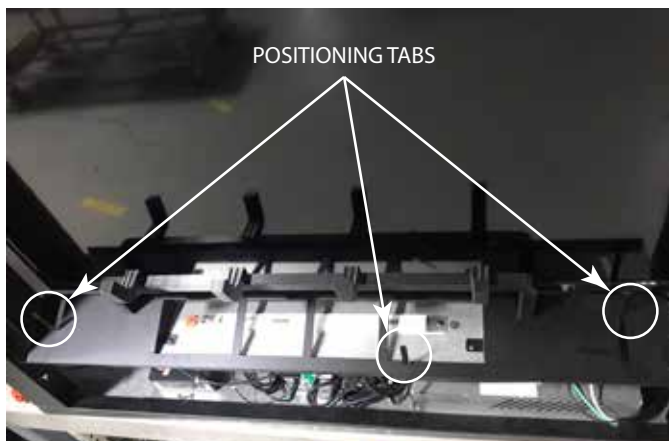
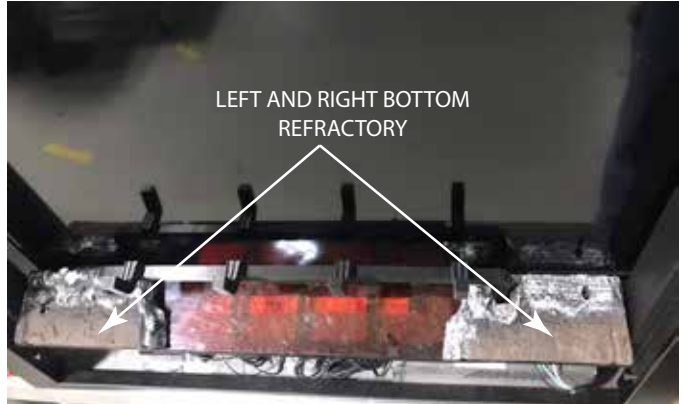

Figure 4.15 Fold Up Tabs
Figure 4.17 Install Left and Right Base Refractory Pieces
4. Place the left and right base refractory pieces on the base pan of the appliance. Each piece will fit over the Positioning Tab (that were folded up in step 2) as shown in Figure 4.15. See Figure 4.17.